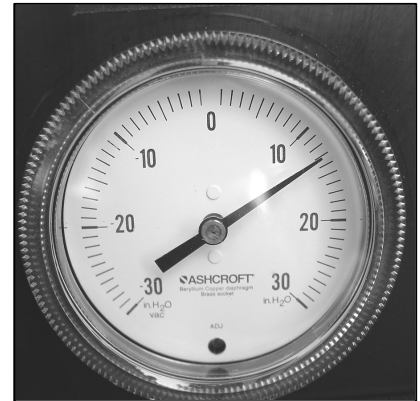

Figure 4
6. The Tester's pressure gauge should read 14" to 15" of water column (w.c.). (Figure 4)
7. Be sure the Tester's System Pressure Gauge is indicating system pressure after having performed steps 1-6 above. (Figure 4)